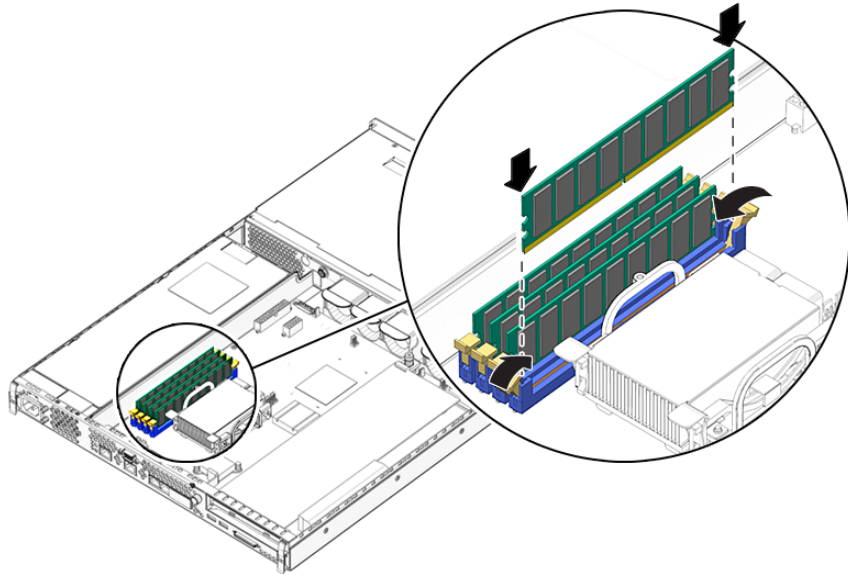

FIGURE 1-10 Installing Memory
4. **Ensure that the retaining clips are open (FIGURE 1-10).**